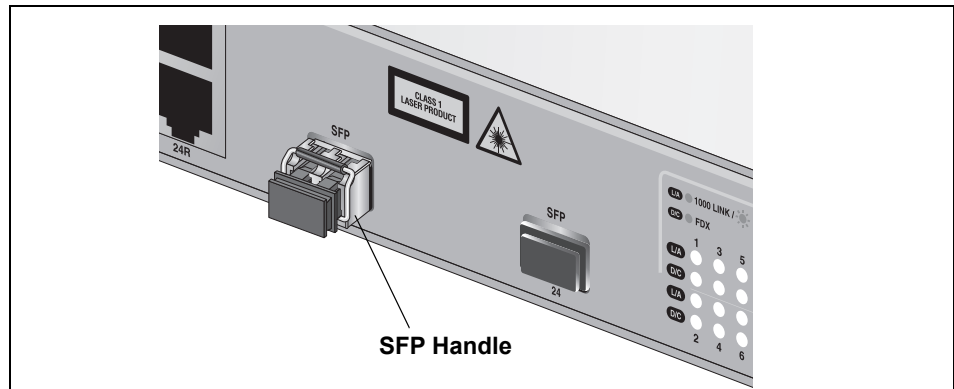

Figure 33. Positioning the SFP Handle in the Upright Position
5. Verify that the handle on the SFP transceiver is in the upright position, as shown in Figure 33, to prevent inadvertently removing the transceiver.